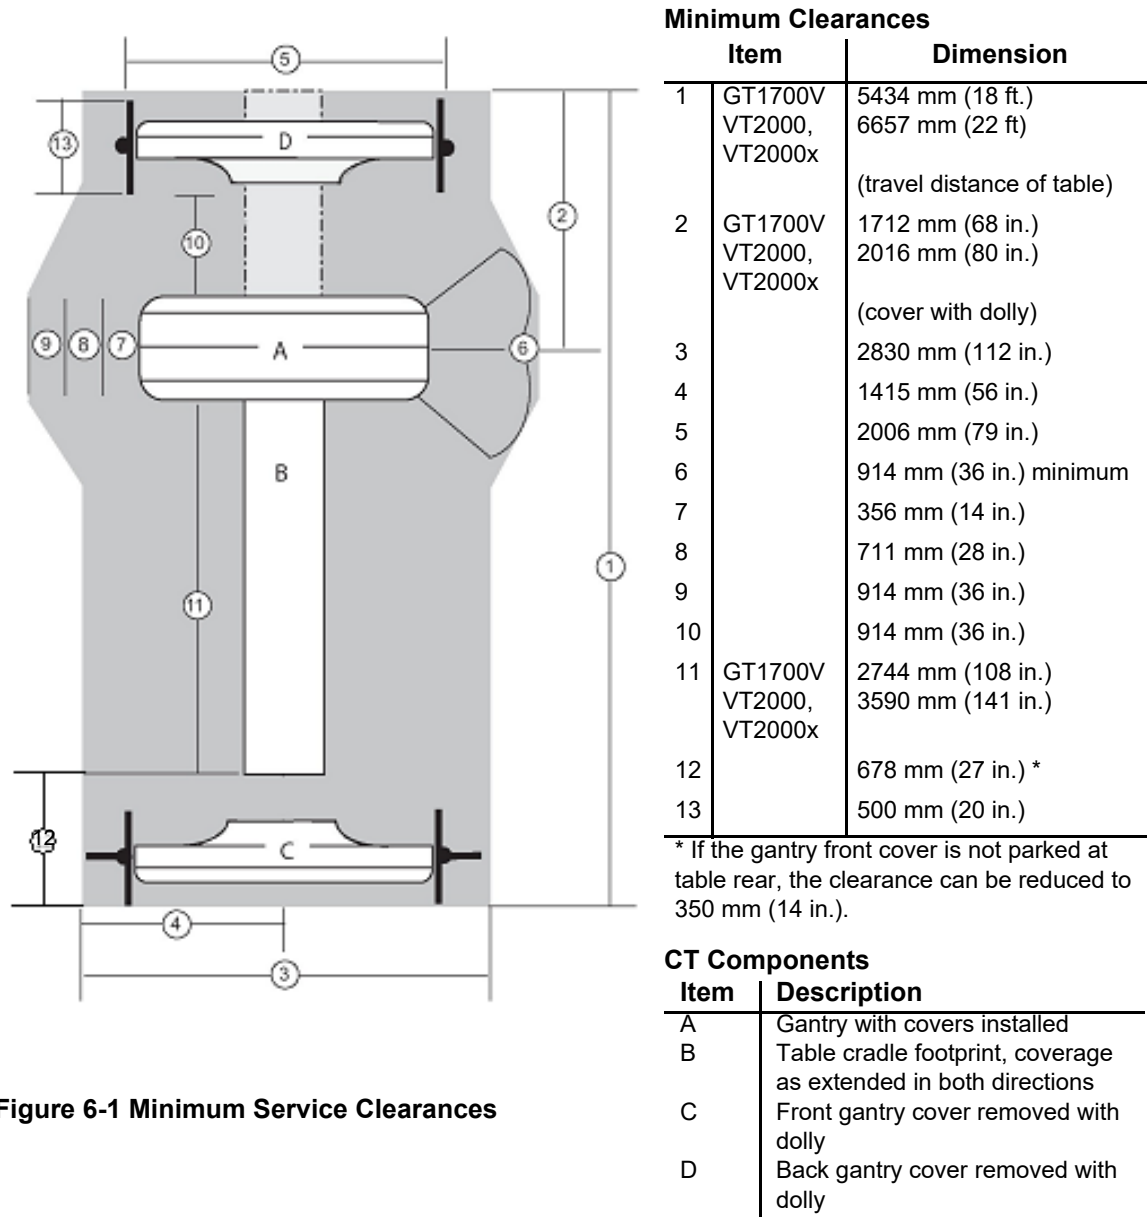

Figure 6-1 Minimum Service Clearances
- Sufficient space to remove the covers Figure 6-1.
Note: When calculating service clearances, refer to Figure 6-1 for all service clearance needs.
- Gantry front cover removal requires the use of the Tilting Cover Dollies and a minimum clearance space of 2830 mm (112 in.) to maneuver the cover, as illustrated in Figure 6-1. The dollies allow the service engineer to separate the cover from the gantry, tilt it 90 degrees, roll it to the foot end of the table, and then tilt it an additional 90 degrees, so that it is upside-down relative to its normal system-mounted condition. After removal, the service engineer must then move the gantry front cover to a position that satisfies the minimum regulatory clearances.
- The gantry rear cover, with service dollies installed, requires a clearance width of 2006 mm (79 in.) and a depth of 914 mm (36 in.) for removal, as shown in Figure 6-1. Sufficient space to allow the service engineer to move the cover either straight back or to one side of the table to satisfy the minimum service clearances shown in Figure 6-1 must be maintained. The rear cover with dollies cannot extend past the allowable clearance space within the room (see Figure 6-1). If the system is not sited straight (it is positioned diagonally), full service space is still required. The PMI and customer should discuss this consideration and make the necessary provisions.